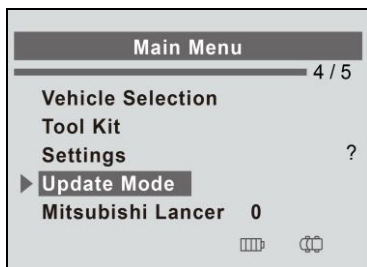

Figure 5.1
- 3) Use the **UP/DOWN SCROLL** button to select **Update Mode** from **Main Menu** (Figure 5.1), and press the **Y** button to confirm.